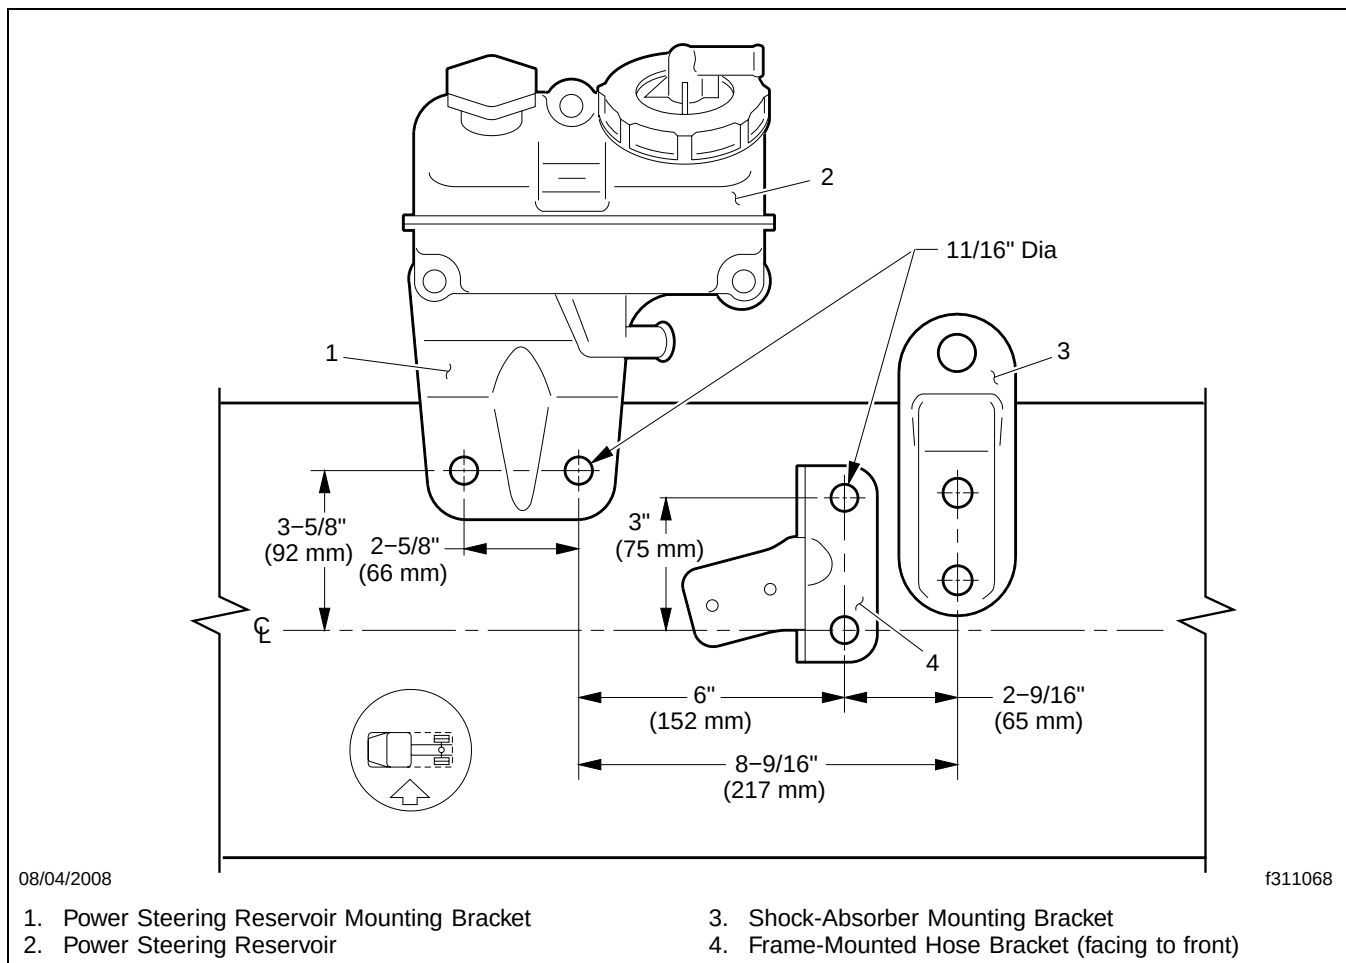

Fig. 3, Drilling and Mounting Locations
13. Mark the layout of the holes on the frame, using the drilling diagram. See **Fig. 3**.
29. Install the frame-mounted hose bracket, as shown in **Fig. 3**.